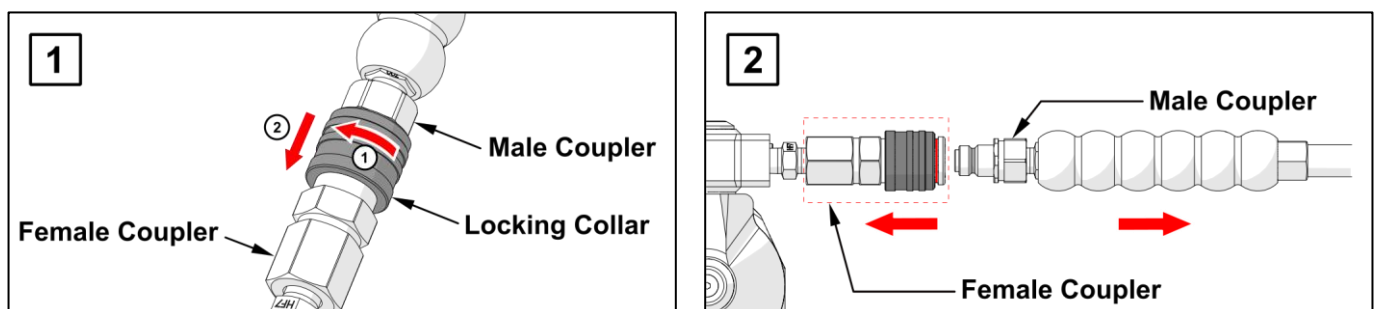

Figure 5.2: Hydraulic Disconnections
5.3.2 Disconnections (See figure 5.2)